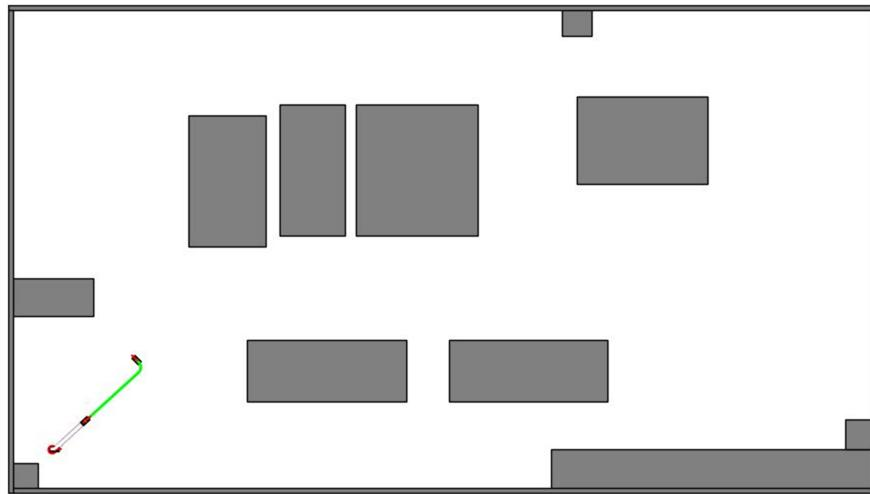

Figure 8: Pathfinding algorithm outputs
6.b *Task:* Compute the robot trajectory between way-points 1-2; 2-3 and 3-4. Presents plots of the robot trajectory. **Hint:** Similar to what you did in assignment 1 for hybrid A* algorithm, you will need to create a map for path-finding, then change the robot positions. Assume the robot length $L=0.5$, The plots must be similar to Fig. 8.